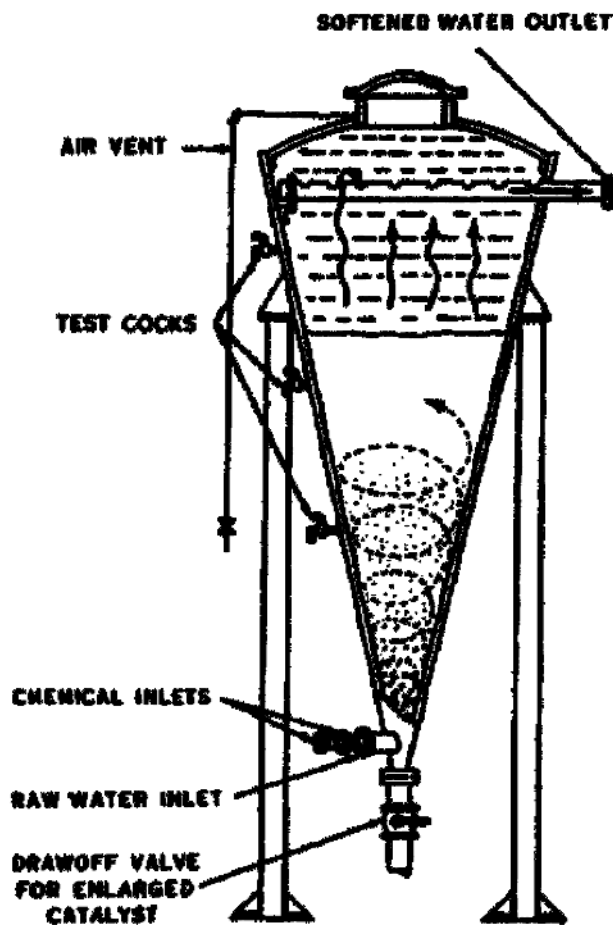

Figure 72. Spiractor
17. The Spiractor, shown in figure 72, consists of an inverted conical tank in which the lime-soda softening reactions take place in the presence of a suspended bed of granular calcium carbonate. In operation, the tank is slightly more than half filled with 0.1 to 0.2 millimeter granules. Hardwater and chemicals enter the bottom of the unit close to each other. They mix immediately as the treated stream of water rises through the granular bed